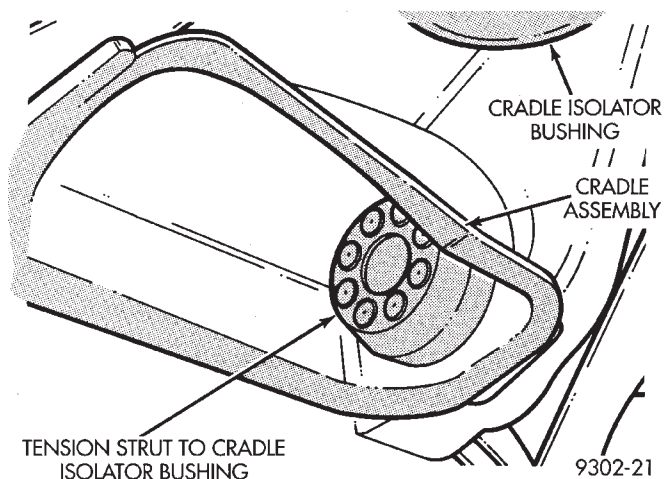

Fig. 15 Tension Strut Bushing Installed In Cradle
(3) Remove the failed tension strut to cradle isolator bushing from the cradle assembly. Install replacement tension strut to cradle isolator bushing into cradle, until squarely seated against cradle assembly (Fig. 15).